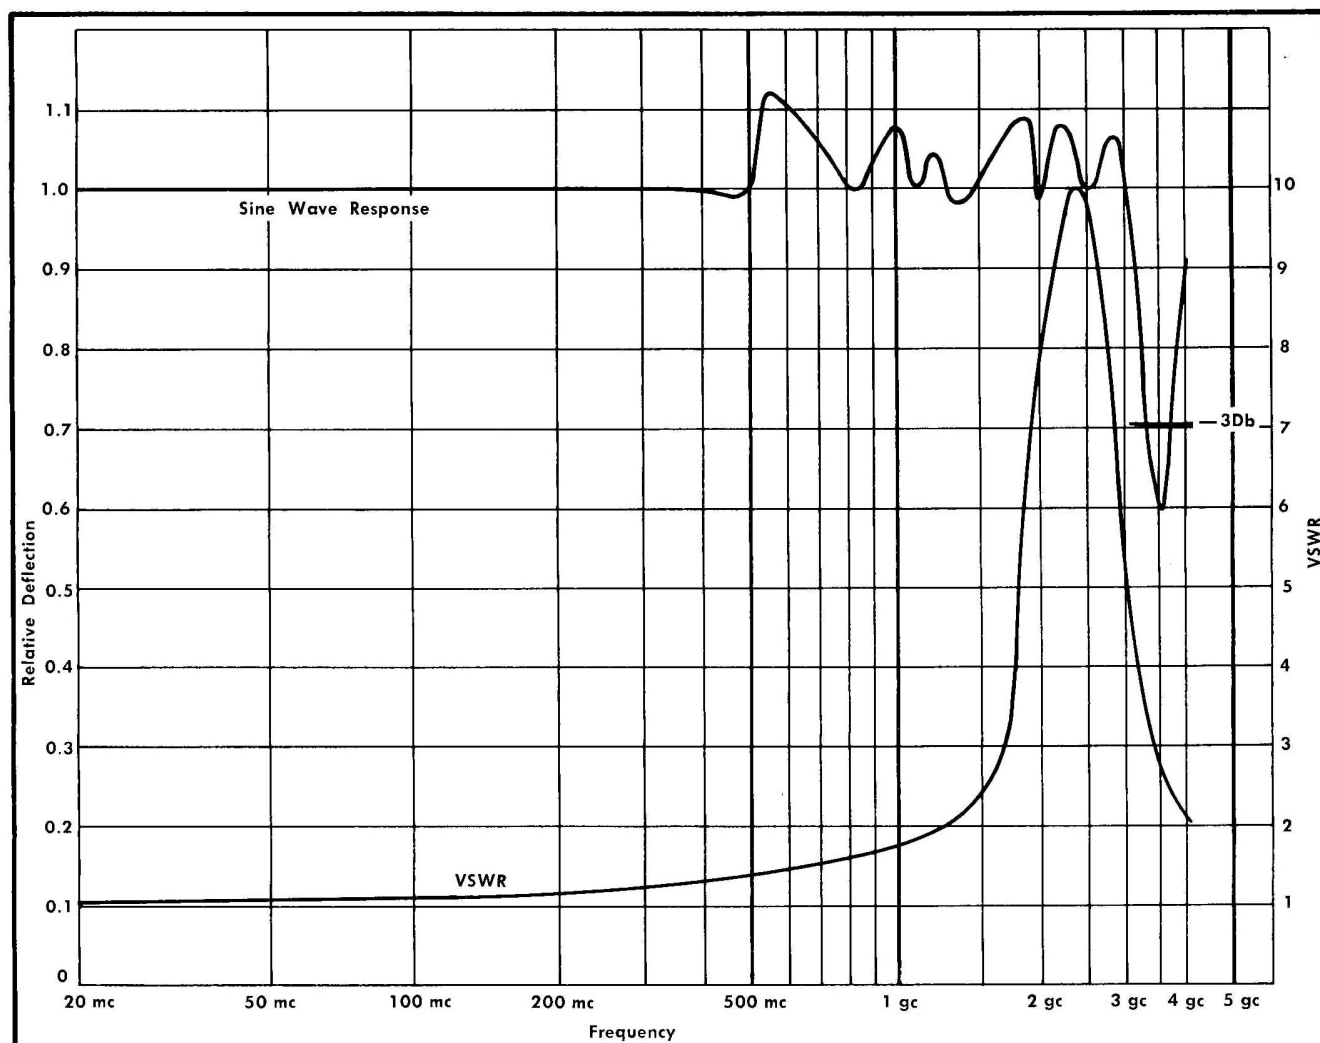

Fig. 1-1. Typical Type 452 VSWR and relative amplitude response to sine waves, S/N 301 up.
50 ohms $\pm 1\%$ at dc. Fig. 1-1 shows input VSWR up to 4 gc. Passive and cathode follower probes are available for higher input impedance at reduced sensitivity.
0.1 nsec or less, 10% to 90%. Typical risetime and transient response is shown in Fig. 1-2. (Frequency response shown in Fig. 1-1.) Aberrations during the first 4 to 5 nsec after the fast transition are due to the Type 4S2 input circuit, not the pulser. The transient aberrations are related to the frequency response curve of Fig. 1-1.